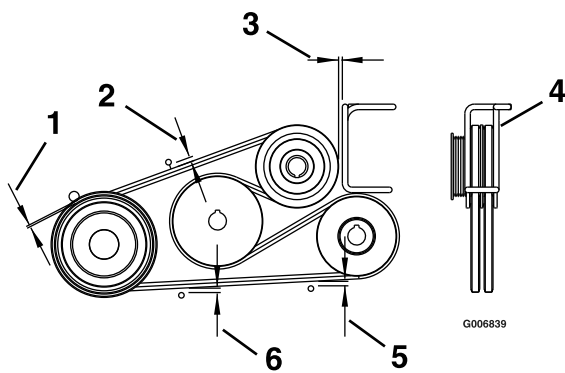

Figure 54
4. Adjust the belt guides as shown in Figure 54.